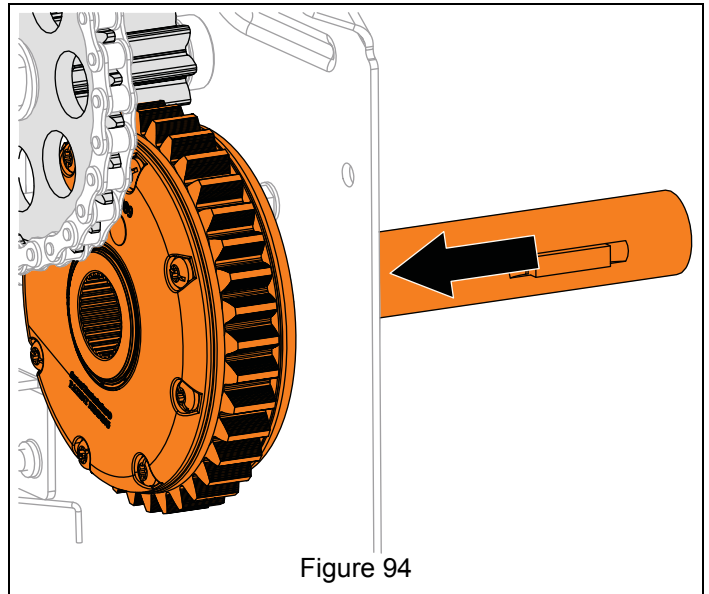

Figure 94
3. Align differential gear with pinion gear and short axle. Reinstall short axle into differential. See Figure 94.